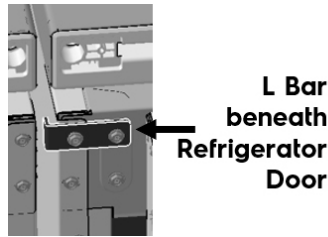

Fig. 8
- With the refrigerator still on its back, use a  $\frac{5}{16}$ " nut driver to remove two 4H bolts and fasten the 10H L-Bar (Fig. 8).